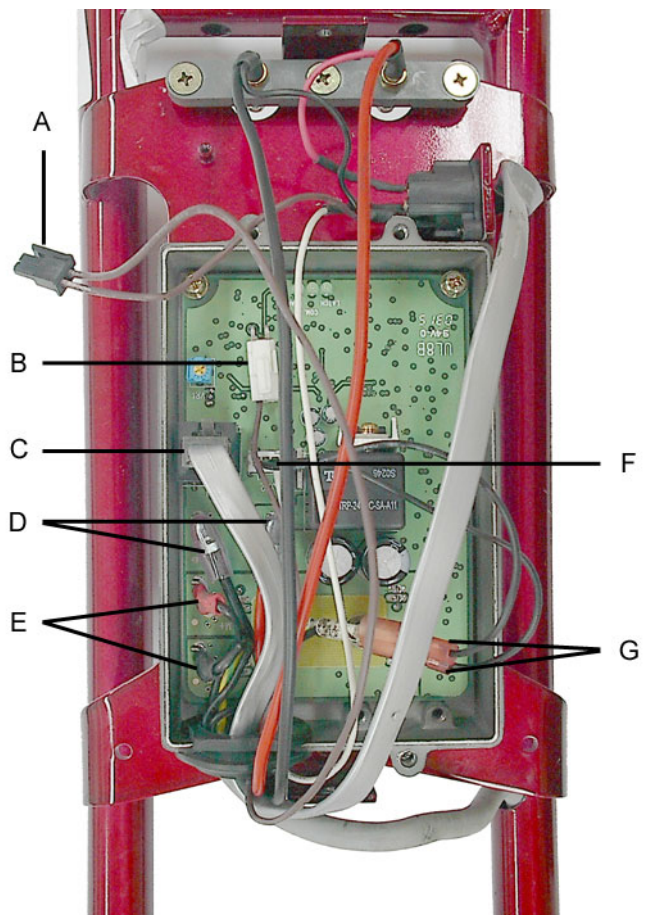

Figure 10a
6. Attach Wires to Controller (Fig. 10a):